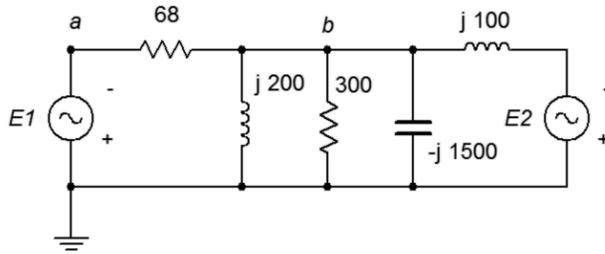

Figure 6.4
- Use mesh analysis to find the current through the  $j200 \Omega$  inductor in Figure 6.4.  $E1 = 1\angle 0^\circ$ ,  $E2 = 2\angle 0^\circ$ .
- Given the circuit in Figure 6.4, write the mesh loop equations and determine  $v_b$ . Consider using parallel simplification first.  $E1 = 36\angle -90^\circ$ ,  $E2 = 24\angle -90^\circ$ .
49. Given the circuit in Figure 6.4, use nodal analysis to determine  $v_{ba}$ .  $E_1 = 1\angle 0^\circ$ ,  $E_2 = 2\angle 0^\circ$ .